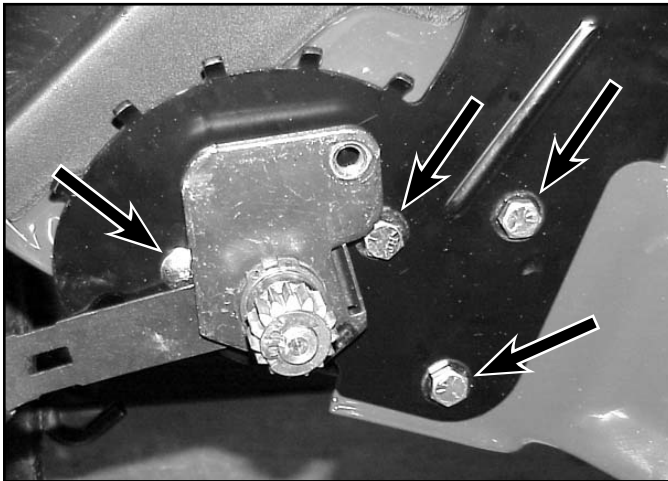

Fig 070
14. Place the mower right side up and remove the three hex head and one Allen head cap screws on each side that hold the height of cut plates to the chassis (Fig. 070). The transmission assembly will now drop down.